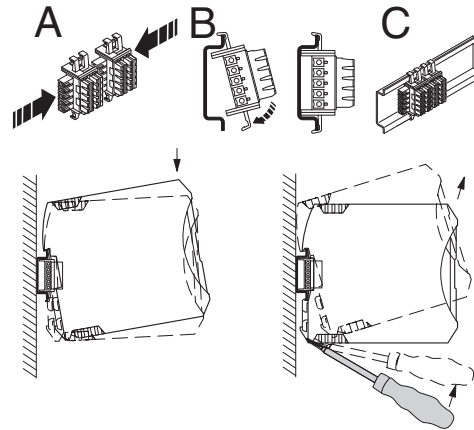

Figure 4 Assembly and Removal
- When using the DIN rail connector, first place it into the DIN rail (see A – C, Figure 4). It is used to bridge the voltage supply and for error messages. Please also observe the direction of the module and DIN rail connector when snapping into position: Snap-on foot below and connector left.